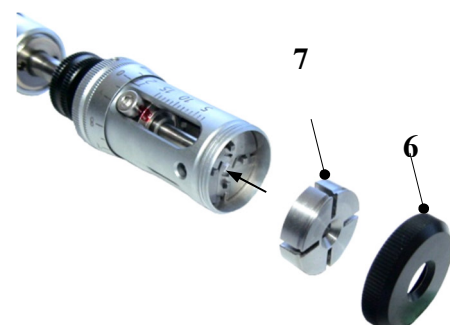

Fig. 14 Assemble plate and cover
- Carefully replace the cover plate (7). The chamfer (10) must point towards the outside. (Fig. 14)
- Screw the end cap (6) back on again, but **do not tighten**. (Fig. 14)